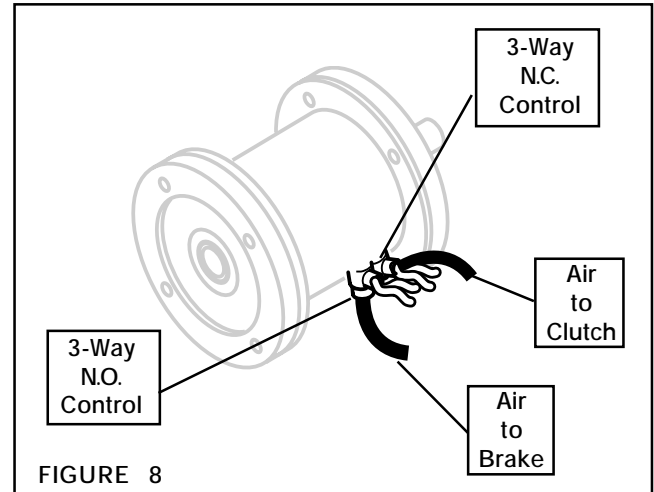

FIGURE 8
1. Connect a 3-Way N.O. Control into the brake inlet port and a 3-Way N.C. Control into the clutch inlet port (See Figure 8).
2. Connect an air supply line to the inlet port (marked **IN**) on the top of the 3-Way N.O. Control and an air supply line to the inlet port (marked **IN**) on the side of the 3-Way N.C. Control (See Figure 8).